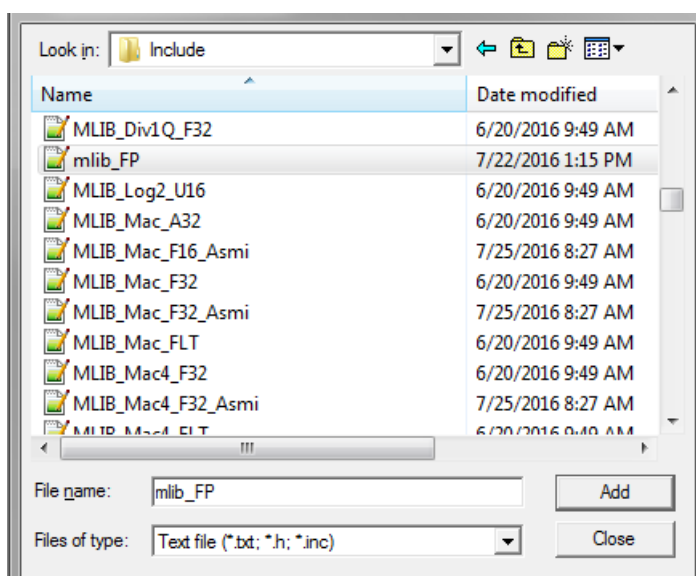

Figure 1-34. Adding .h files dialog
4. Navigate into the library installation folder C:\NXP\RTCESL\CM7F_RTCESL_4.6_KEIL\MLIB\Include, and select the *mllib_FP.h* file. If the file does not appear, set the Files of type filter to Text file. Click Add. See Figure 1-34.